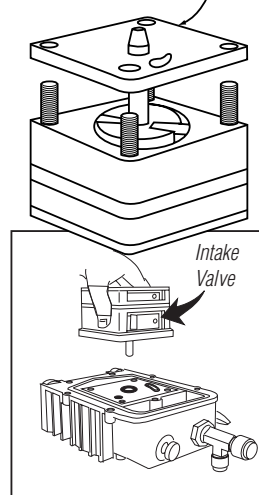

Figure 30
Step 1: Keep trap flat on bench. **Remove holding nuts from cartridge, keeping all parts in alignment. (Four nuts can be discarded.)** Cartridge is held with shaft down and flutter valves facing intake fitting. Center shaft with seal opening (**Figure 30**). Align with threaded holes and place in position. Hand tighten four bolts. Cross tighten with 7/16" wrench.